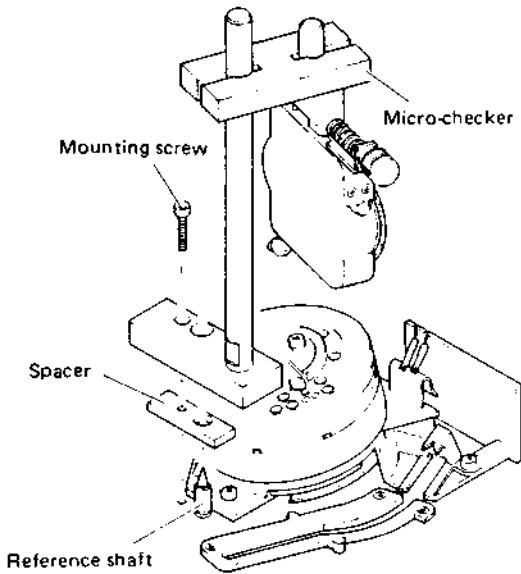

Fig. 2-3-3 Micro-checker mounting
- 3) Set the micro-checker on the reference shaft as shown in Fig. 2-3-3. Use a hex wrench (metric) to tighten the mounting screw.